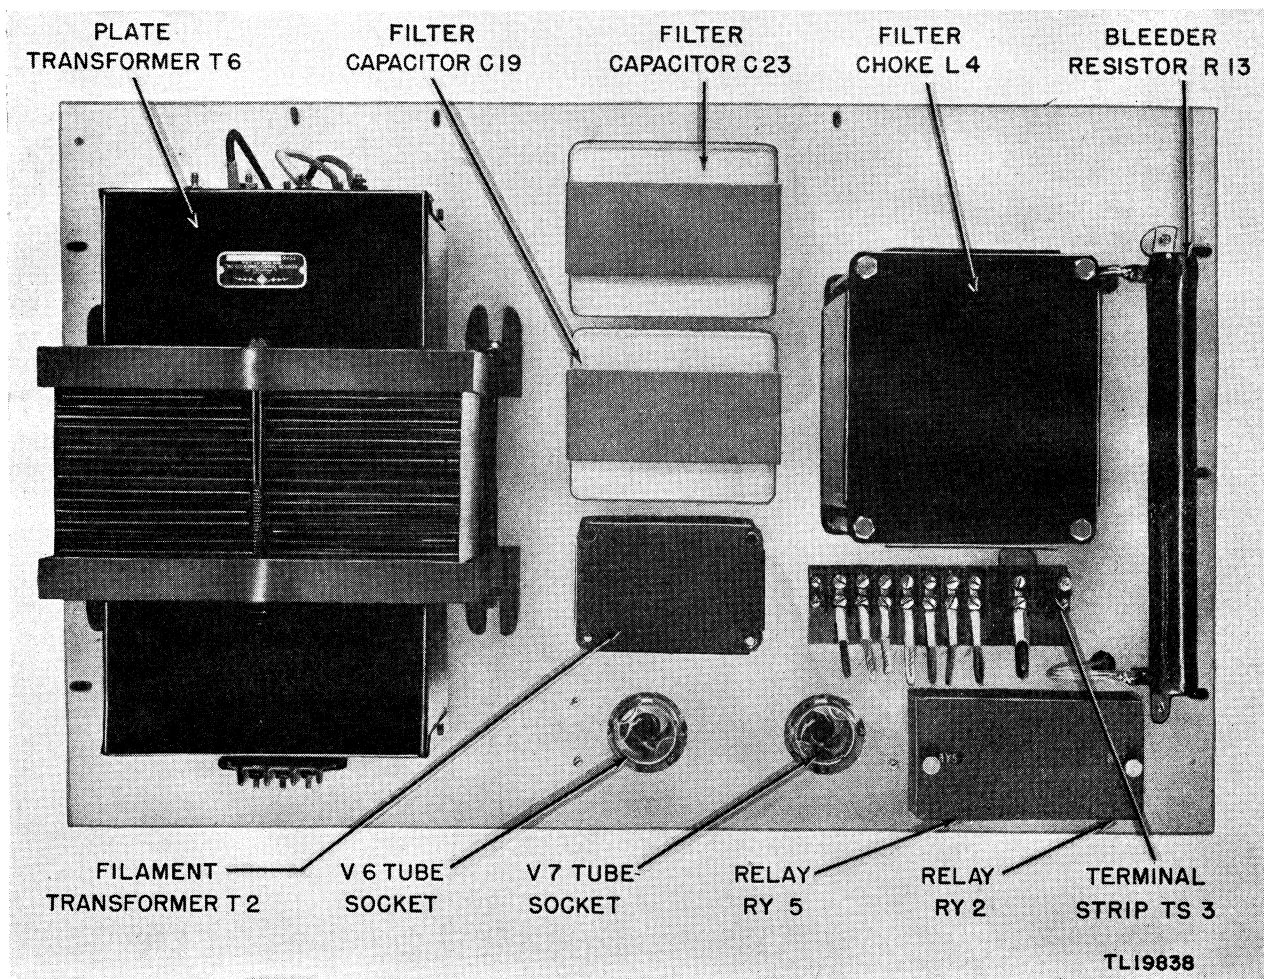

Figure 14. Radio Transmitter BC-610-A, BC-610-B, BC-610-C, and BC-610-D, power supply, top view.
(3) *Tubes JAN-866 (V6 and V7) (VT-46-A) (fig. 14).* To remove tubes, disconnect plate spring clip from top of tube; turn the tube counterclockwise until unlocked, then lift out of socket.